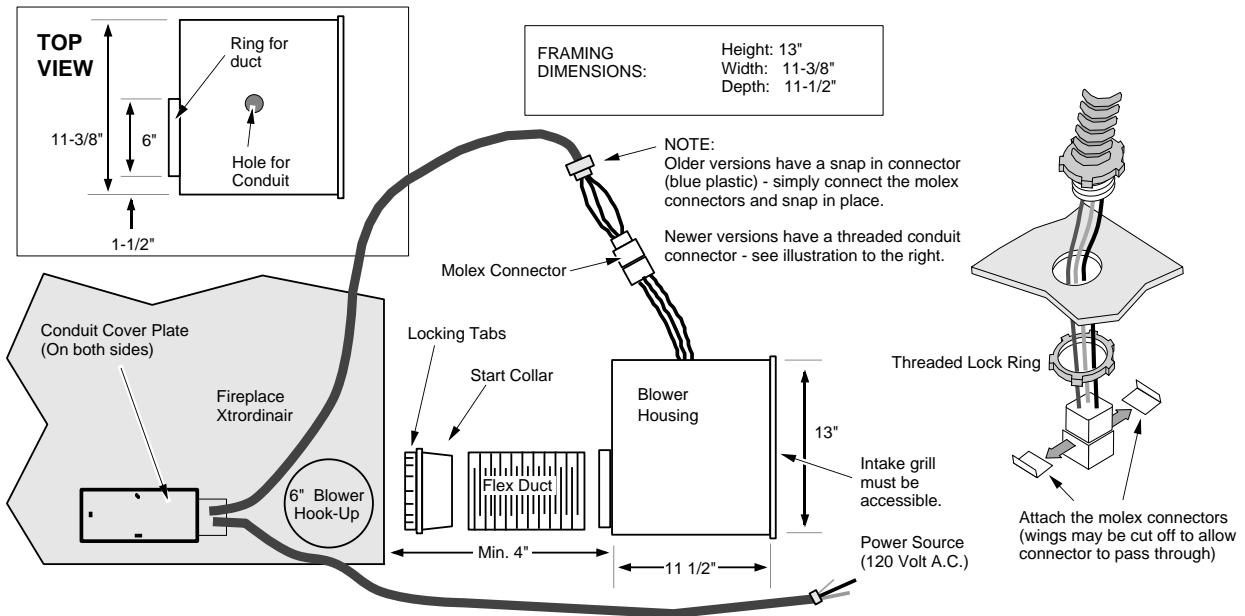

Figure 16
- Connect the blower duct to the right, left, or bottom of the fireplace. See Figure 16 for an overview.
Remove the side cover plate. Insert the starter section into the blower hook-up hole and bend the locking tabs outwards, locking the starter section in place (see Figure 16).
Remove the cover plate and pass-through plate on the bottom of the fireplace (both are held in place with the same 4 screws). Remove the 8-1/2" by 6-1/4" air deflector (flapper) above the cover plate and secure the starter section to the 6" diameter hole above the air deflector (bend the locking tabs outwards, locking the starter section in place - see Figure 16). Replace the pass-through plate with the 4 screws removed earlier (the pass-through plate has a 6-1/2" diameter hole for the duct).
- Connect the electrical supply lead conduit to a 120 Volt, 60 Hz (2 Amp) electrical supply. Use a junction box to protect the electrical connection (see Figure 16).
- Connect the blower conduit to the blower box by attaching the two molex connectors together. Insert the molex connectors into the blower box. Then attach the conduit to the blower box by inserting it into the top until it snaps in place (see Figure 16).